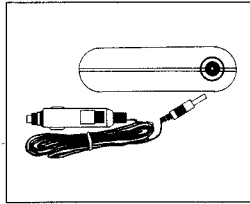

Figure 2b
**Car Cord** - Plug the car cord power adapter (J) into the car's cigarette light socket; then, plug the other end into the charger's power input (A). See Figure 2b.